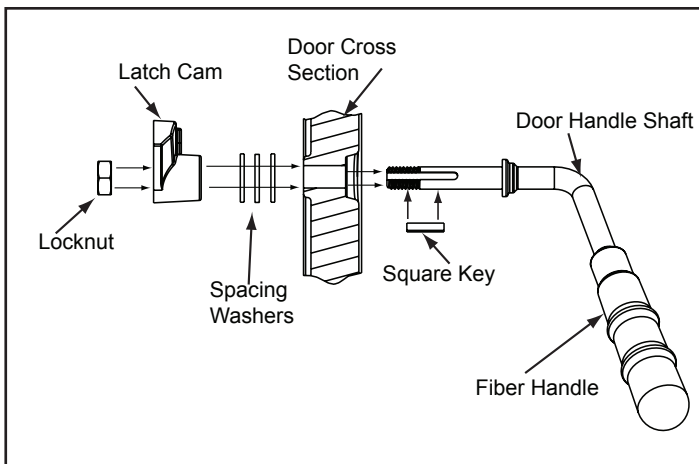

Figure 24.1
3. Install additional washer(s) as shown in **Figure 24.1**.
7. Install handle turning in a counter-clockwise motion to desired location on door handle rod. **Figure 24.1**.